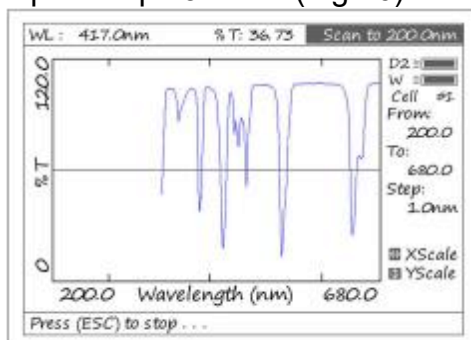
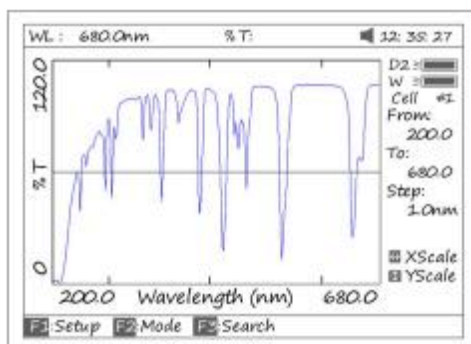

Fig 45
Fig 46
4. Put the sample cuvette into Main Light Path, press **【START】** to scan the sample(Fig 45) **【ESC/STOP】** to stop scanning. When scan has finished the beeper beeps 3 times (Fig 46).
Note: The report always is printed in Fig 46